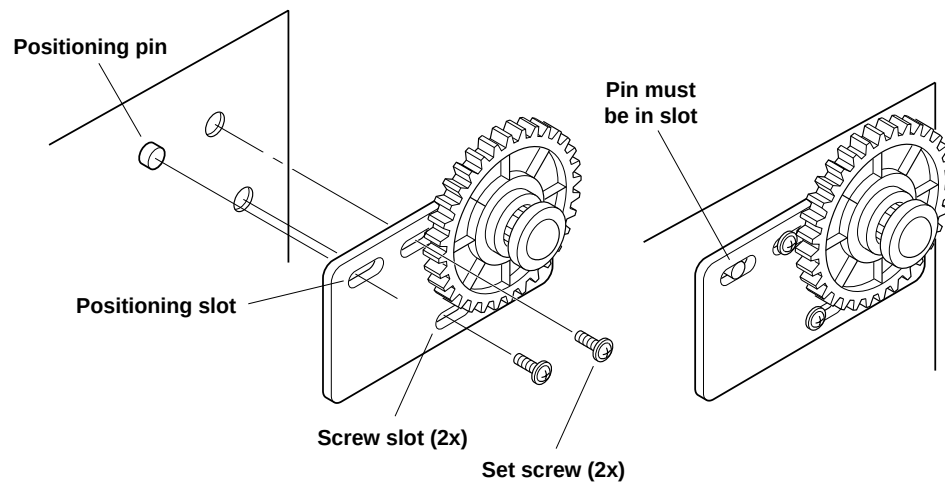

Figure 5-1 Example of Positioning-Pins and Holes On Bracket Assemblies
- **Movable-bracket positioning-pins and locating-holes**—Figure 5-1 illustrates proper reinstallation of critical hardware. A bracket misaligned due to careless remounting can cause expensive damage.